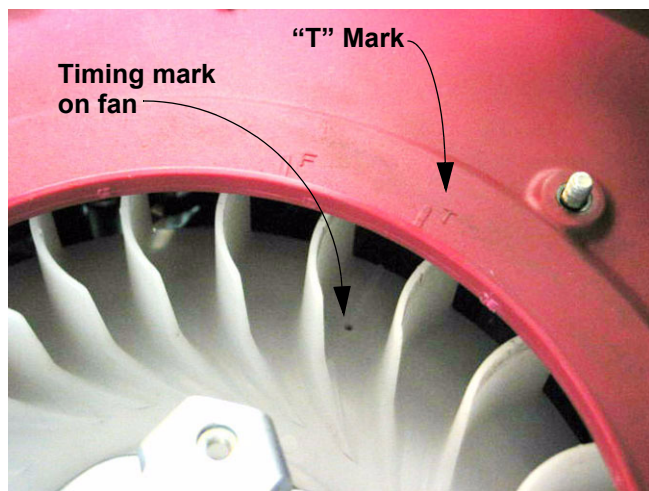

Figure 15.18
15.18. Rotate the engine crankshaft manually to locate top dead center (TDC) on the compression stroke for cylinder #1 (front cylinder). See Figure 15.18.